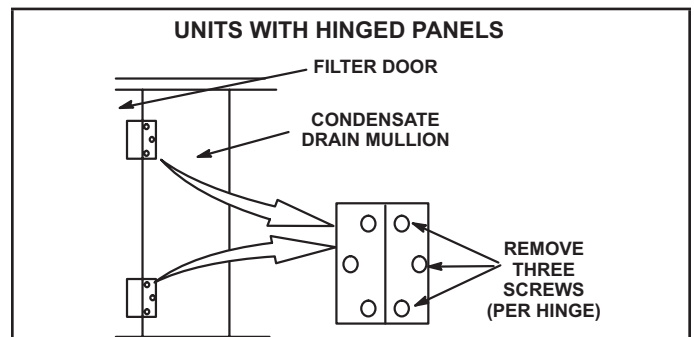

FIGURE 6
2 - Remove six screws from filter access door. Refer to FIGURE 6.
- 2 - Remove six screws from filter access door. Refer to FIGURE 6.